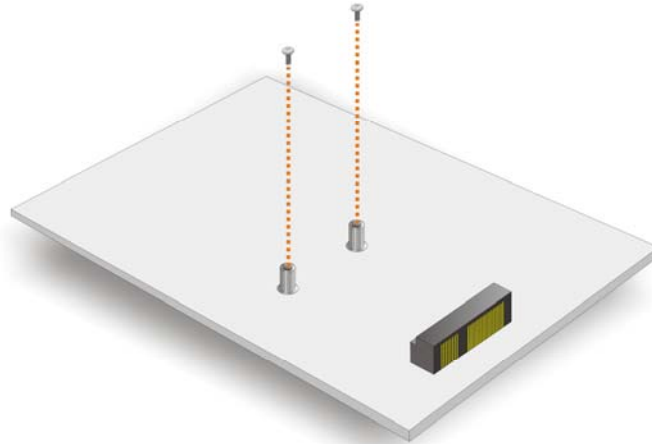

Figure 4-10: Remove the Retention Screws for the PCIe Mini Card
- Step 2:** Remove the retention screws. Remove the two retention screws secured on the motherboard as shown in **Figure 4-10**.